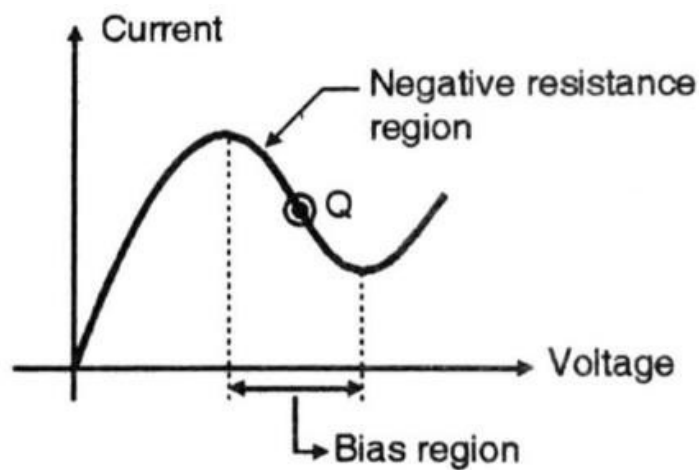

Fig.2. V-I Characteristics of Gunn Diode
7. Plot the voltage and current readings on the graph as shown in fig.2.